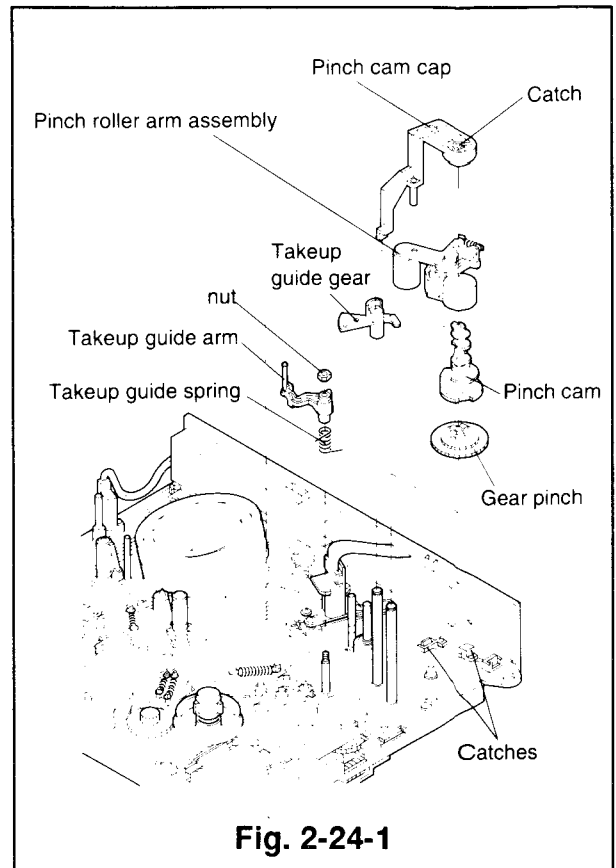

Fig. 2-24-1
- ① Unfasten the catch shown in Fig. 2-24-1 and raise the pinch cam cap upward to remove it.
- ② Raise the pinch roller arm assembly upward to remove it.
- ③ Raise the pinch cam and the takeup guide gear upward to remove them from the shaft.
- ④ Unfasten the two catches holding the mode switch and remove the gear pinch from the shaft, lift the mode switch only high enough to remove the gear pinch. (Take care not to break the pins of the mode switch.)
- ⑤ Remove the nut at the top of the takeup guide arm with a (5.5mm) box screw driver.
- ⑥ Raise the takeup guide arm upward to remove it.
- ⑦ Remove the takeup guide spring.